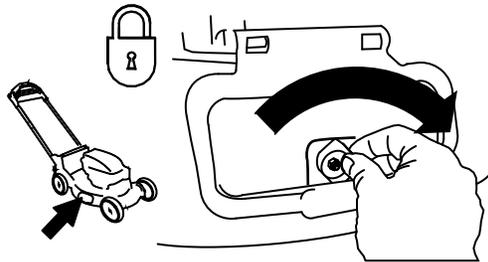

Figure 34
**Important:** Lock the side-discharge deflector after you close it (Figure 34).